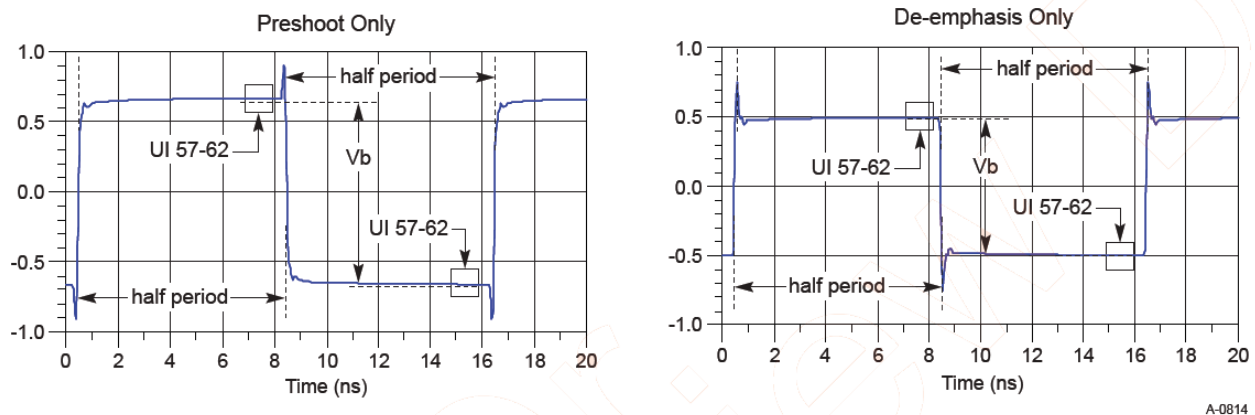

Figure 56 Waveform measurement points for preshoot and de-emphasis
8.0 GT/s, 16.0 GT/s and 32.0 GT/s PCIe signaling must support the full range of presets given in Table 8-1 (PCIe Base Specification Revision 5.0). Presets are defined in terms of ratios, relating the pre-cursor and post-cursor equalization voltages. The pre-cursor ( $V_c$ ) is referred to as pre-shoot, while the post-cursor ( $V_b$ ) is referred to as de-emphasis. This convention permits the specification to retain the existing 2.5 GT/s and 5.0 GT/s definitions for Tx equalization, where only de-emphasis is defined, and it allows preshoot and de-emphasis to be defined such that each is independent of the other. The tolerances in Table 8-1 (PCIe Base Specification Revision 5) also apply to 2.5 and 5.0 GT/s de-emphasis. The maximum swing,  $V_d$ , is also shown to illustrate that, when both  $c_{+1}$  and  $c_{-1}$  are nonzero, the swing of  $V_a$  does not reach the maximum as defined by  $V_d$ . The high frequency nature of PCIe signaling makes measurement of single UI pulse heights impractical. Consequently all amplitude measurements are made with low frequency waveforms as shown in Figure 56.